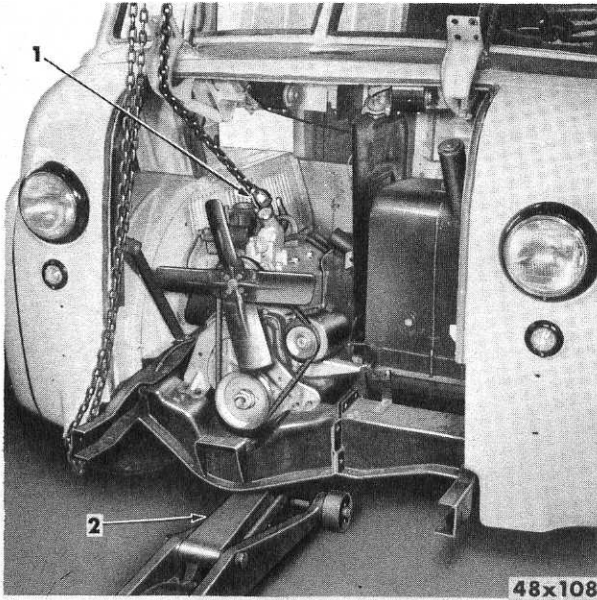
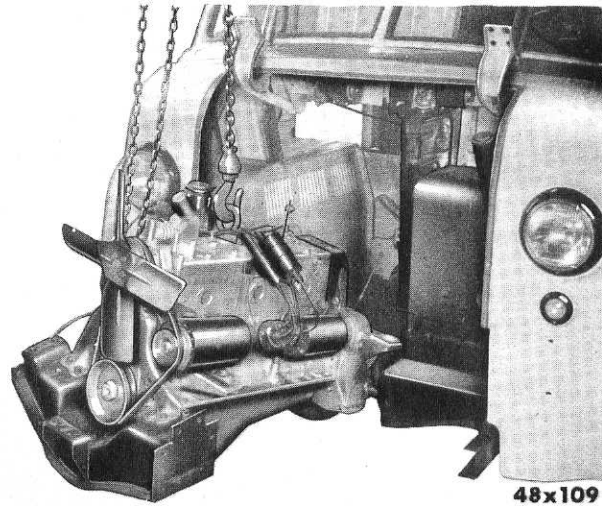

Fig. 77—Position of Chain Hoist for Engine Removal
Fig. 78—Engine Removed
- (16) Insert the hoist chain through the channel of the grille hinges and attach it to the lifting hook, as shown in Figure 77.
- (17) Raise the engine a short distance and ease it forward, gradually putting more weight on the chain.
- (18) When the engine is clear (Fig. 78), roll the chassis back out of the way.